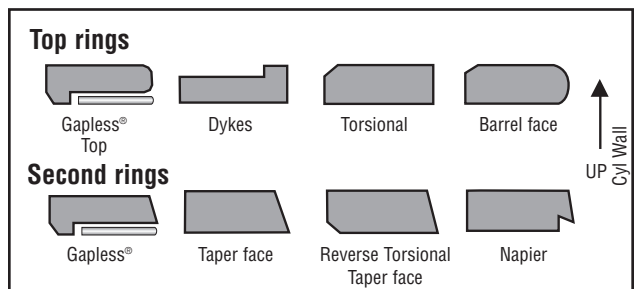

Fig. 3
- 3) Rings without dot or inner bevel install either side up (see fig 3).
- 3) Rings without a dot or inner bevel install either side up (see fig. 3).